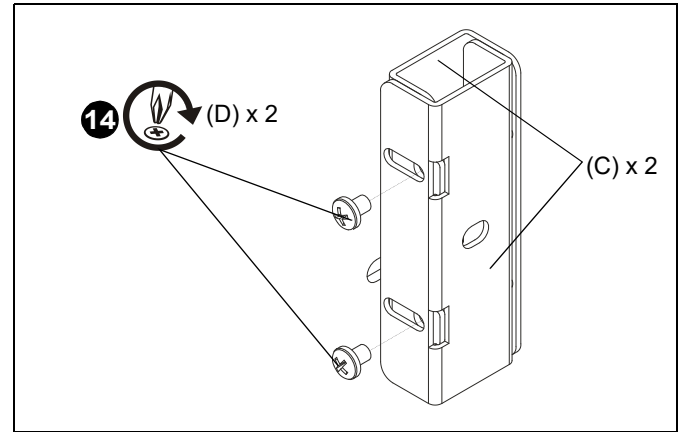

Figure 6
14. Use two #10-24 x 1/4" Phillips pan machine screws (D) to secure each pair of two wall brackets (C) together. (See Figure 6)